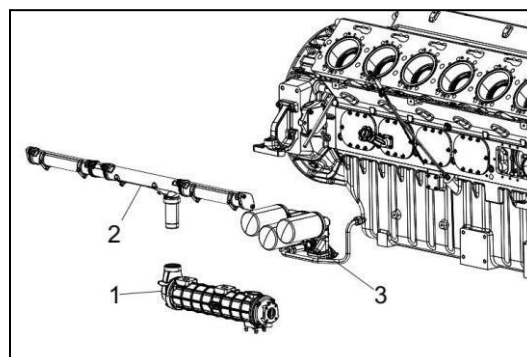

Figure 95
1. Remove the oil cooler group (Figure 95, 1).
2. Remove the water inlet pipe group (Figure 95, 2).
3. Remove the oil filter group (Figure 95, 3).